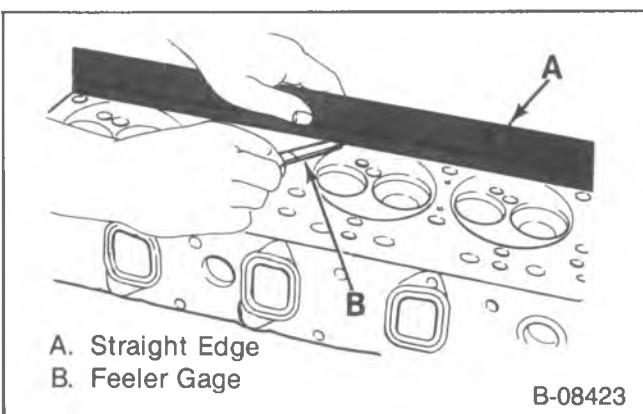

Figure 24—Checking the Cylinder Head for Warpage
Measure (Figure 24)
- Cylinder head warpage. Use a straightedge and a feeler gage (figure 24). If the head is warped more than 0.15 mm (0.006-inch) longitudinally or 0.08 mm (0.003-inch) transversely, replace the cylinder head. Resurfacing is not recommended.